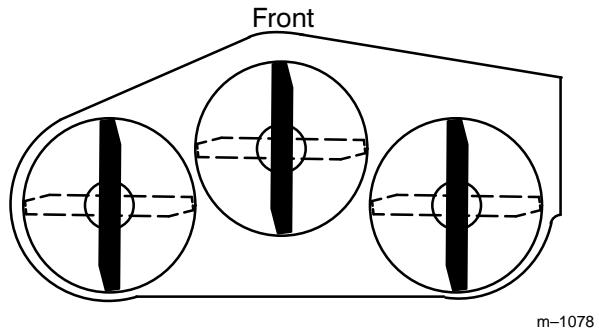

**Figure 10**
1. Inspect the cutting edges (Fig 10). If the edges are not sharp or have nicks, remove and sharpen the blades. Refer to Sharpening the Blades on page 11.
2. Inspect the blades, especially the curved area (Fig. 10). If you notice any damage, wear, or a slot forming in this area (item 3 in Fig. 10), immediately install a new blade.